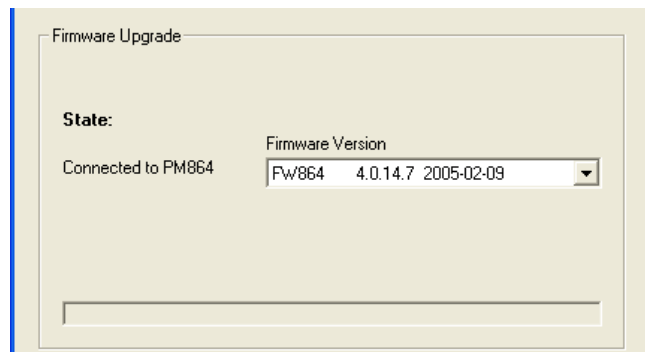

Figure 55. A Firmware version displayed in the text field
- Click **Connect** button and press the **Init** push-button on the PLC until the **Run** LED starts to blink. Wait for a minute until a message appears. If the connection is successful, a confirmation text appears in the Firmware Version text field (Figure 55).